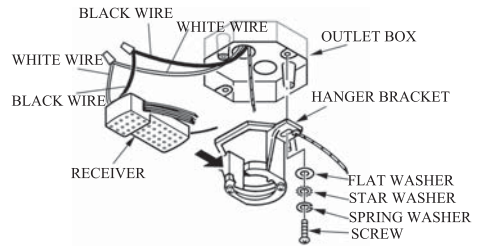

FIG.8
- Securely attach the hanger bracket to the outlet box by washers and screws supplied. Connect white wire from ceiling to white wire from receiver with wire nut. Connect black wire from ceiling to black wire from receiver with wire nut. ( See Fig. 8 )